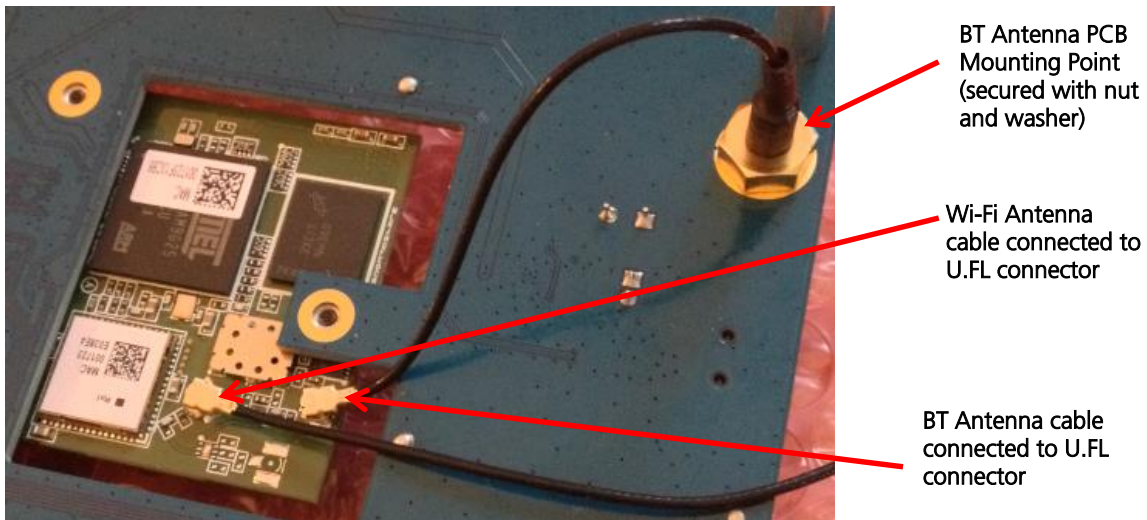

Figure 1: Location of the Wi-Fi and Bluetooth U.FL connectors on the SDB-WB45NBT
2. Connect the 2 U.FL coax cables to the 2 U.FL connectors on the underside of the WB45NBT board. Figure 1 shows the location of the Wi-Fi and Bluetooth antennas.
5. Using the nuts and washers provided, attach the respective SMA connectors on the end of the U.FL cables to the apertures in the BB45NBT board marked **BT_ANT** and **WLAN_ANT** as shown in Figure 1.